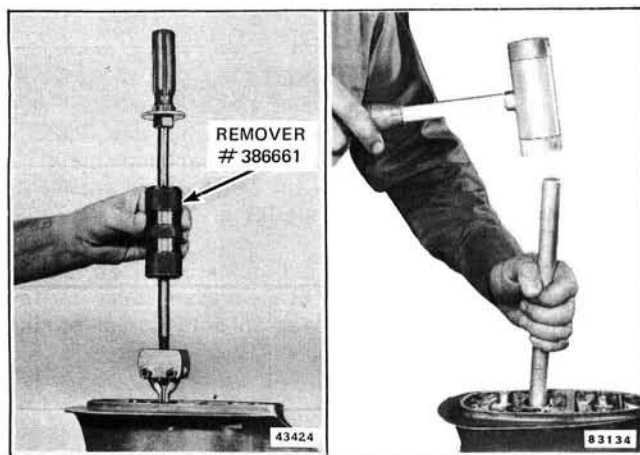

Figure 6-31. Pulling Driveshaft Upper Seals and Bearing
11. If driveshaft seals and bearings are worn, use OMC Special Tool #386661 to pull driveshaft upper bearing seals from gearcase. See Figure 6-31. To remove driveshaft bearing, drive out with OMC Special Tool #319880. See Figure 6-31. Remove bearing sleeve using OMC Special Tool 386661. Invert gearcase and driveshaft bearing will fall out.